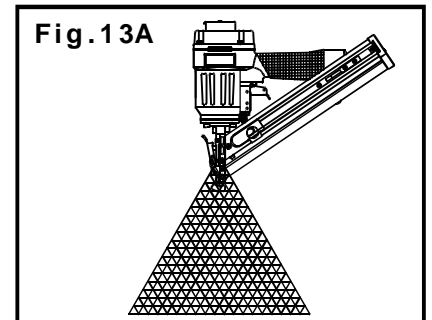

Fig.13A
**24. KEEP HANDS AND BODY PARTS** away from area shown in Fig.13A, to avoid injury.